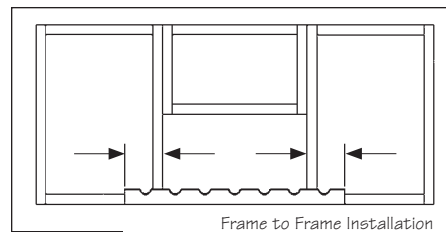

Figure 5
- **24" WIDE:** Trimming is required on both the Front and Back Racks. Hold racks against the cabinet sides/frames so that it is centered in the 24" opening. Mark where each end of the racks overlap the cabinet sides/frames. Cut on marks for each end. Make sure each rack is cut exactly the same to ensure your wine bottles will be aligned after installation. See Figure 5.